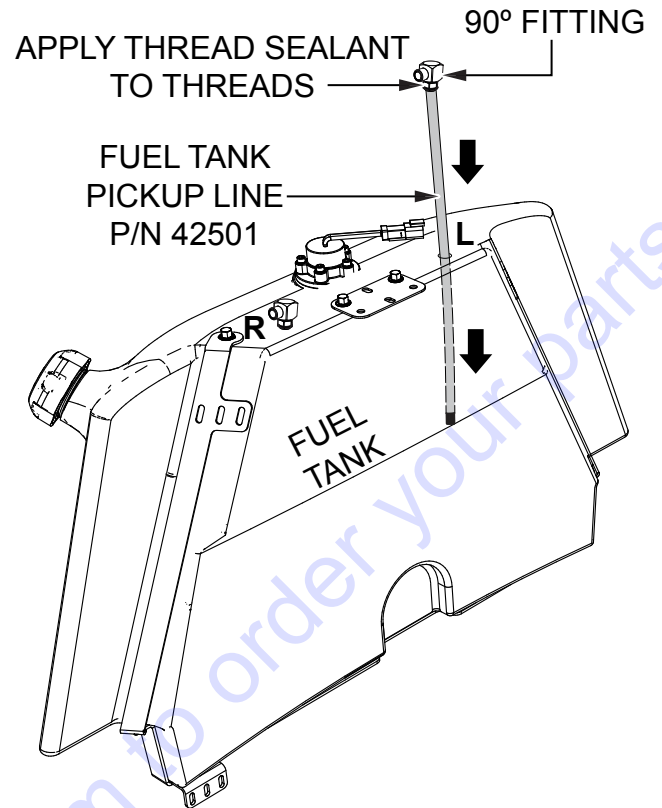

Figure 10. Fuel Tank Pickup Line Installation
1. Apply thread sealant to the threads of the 90° fitting on the new fuel tank pickup line (P/N 42501). See Figure 10.
2. Insert the new fuel tank pickup line (P/N 42501) into the fuel tank and tighten the 90° fitting securely. See Figure 10.